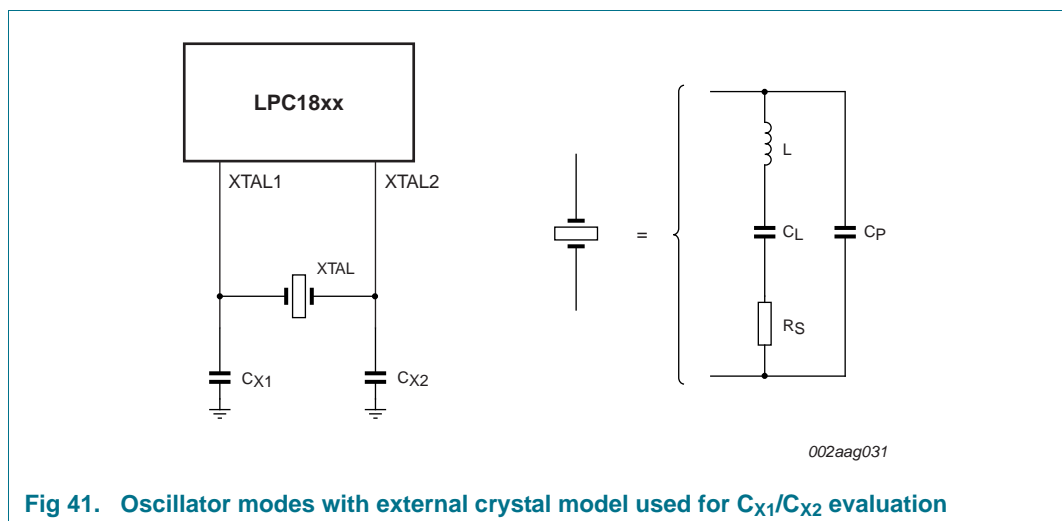

Fig 41. Oscillator modes with external crystal model used for C_{X1}/C_{X2} evaluation
- External components and models used in oscillation mode are shown in Figure 41, and in Table 36 and Table 37. Since the feedback resistance is integrated on chip, only a crystal and the capacitances C_{X1} and C_{X2} need to be connected externally in case of fundamental mode oscillation (L , C_L and R_s represent the fundamental frequency). Capacitance C_P in Figure 41 represents the parallel package capacitance and must not be larger than 7 pF. Parameters F_c , C_L , R_s and C_P are supplied by the crystal manufacturer.